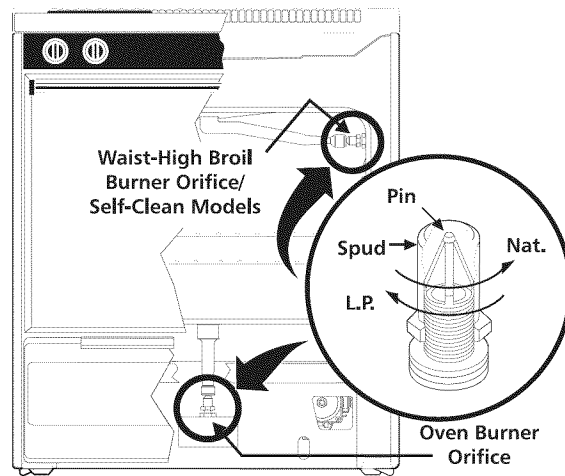

Fig. 14
- Locate the oven burner spud (See Fig. 14).
- Locate the broiler burner spud and turn down until snug against the LP/Propane metering pin (approximately 1 to 1-1/2 turns). **Do not over tighten** (See Fig. 14).